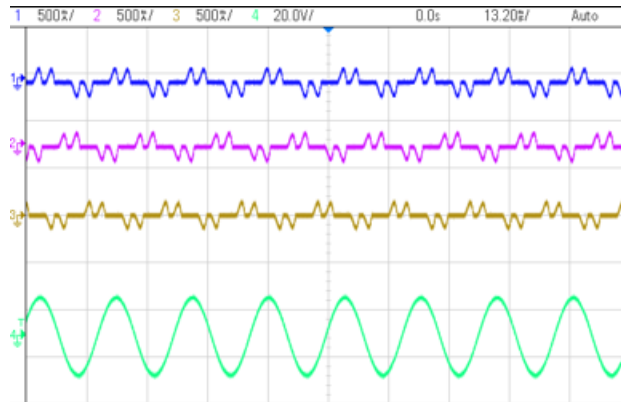

Figure 46. Build Level 4: Scope Capture IL1, IL2, IL3 and V1 (120Vrms L-N) with PWM Tripped
2. Raise the AC input to 120-Vrms VL-L and 208-Vrms VL-L, 60 Hz. A rectified current is going to be drawn from the input with PF close to 0.7 as shown in Figure 46.